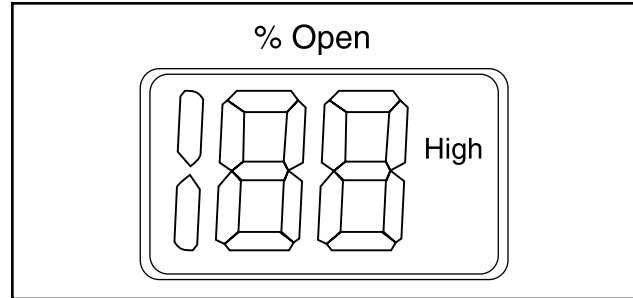

Figure 13 - ICAD Displaying High Speed
- **High** represents that ICAD is operating the ICM valve like an ON/OFF solenoid valve with high speed according to a digital input signal (Figure 13).